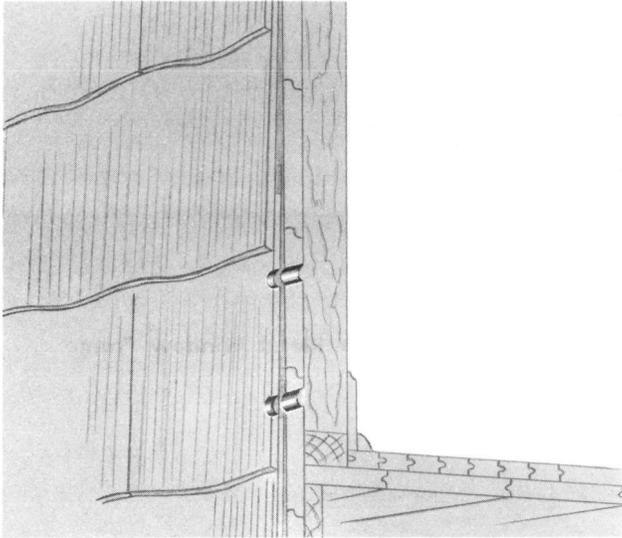

Fig. 3—Entrance Through Composition Shingles
- (d) Locate hole as shown in Fig. 3 so as to avoid drilling through two shingles.